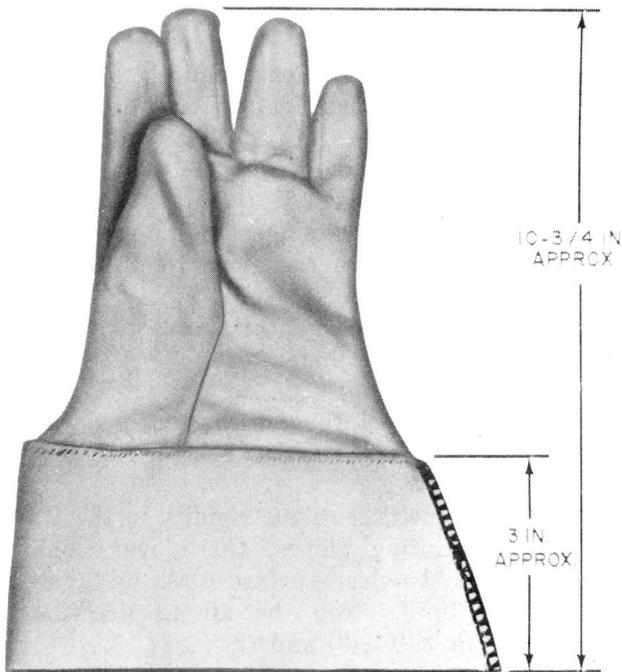

Fig. 3—Fabric Liner Glove
5.01 The C fabric liner gloves (Fig. 3) are form-fitting gloves made of knit cotton cloth